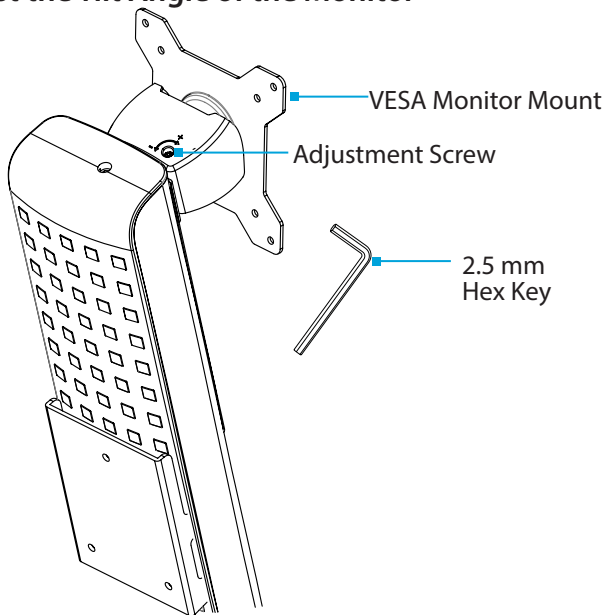

Figure 25
- Adjust the **Screw**, located in the top of the **VESA Monitor Mount**, to increase or decrease the tilt angle of the **Monitor**. (Figure 25)